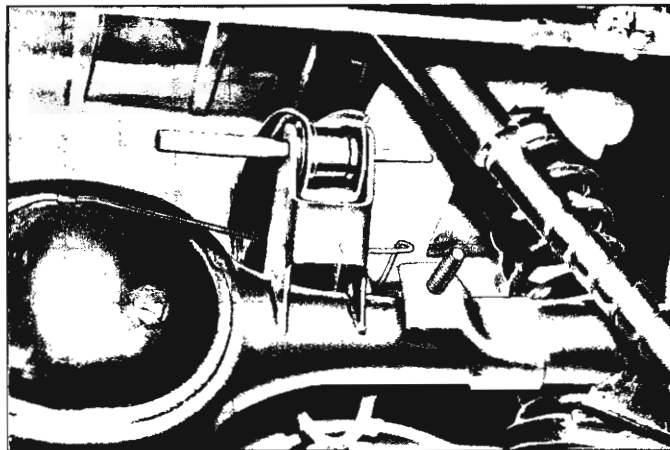

Fig. 17—Rear Spring Removal
4. Remove the nut and lock washer from the upper control arm rear pivot. By using a tapered punch, tap out pivot bolt but leave punch in place (fig. 17).